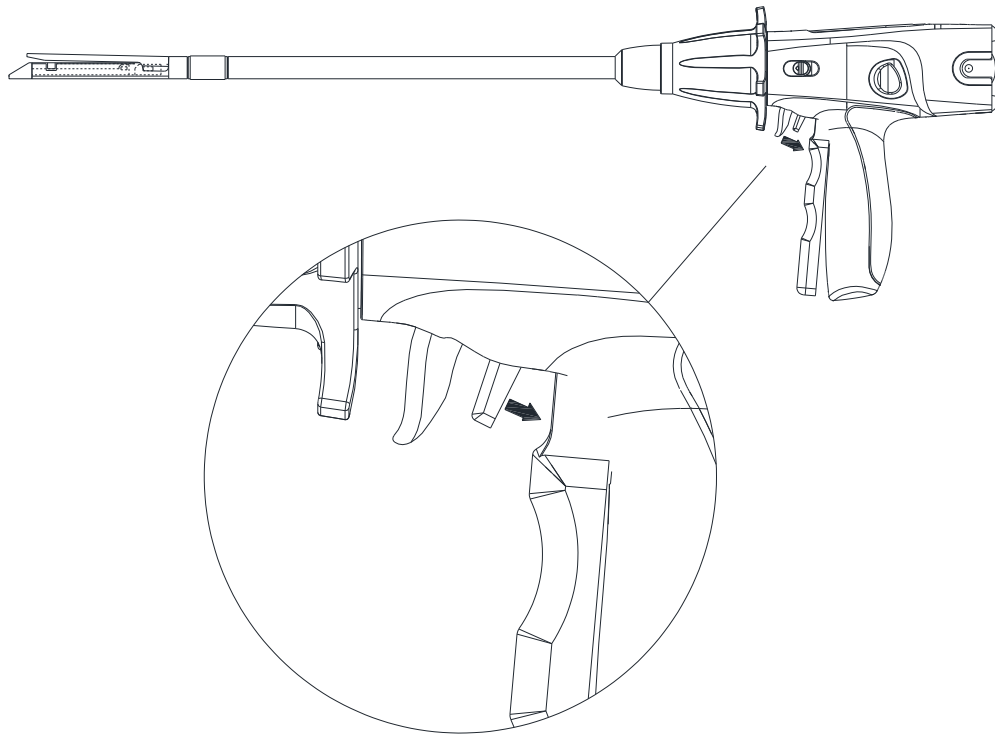

Figure 3-16
- 8) Pull back the red firing safety switch so that the firing trigger can be pulled. (Figure 3-16)